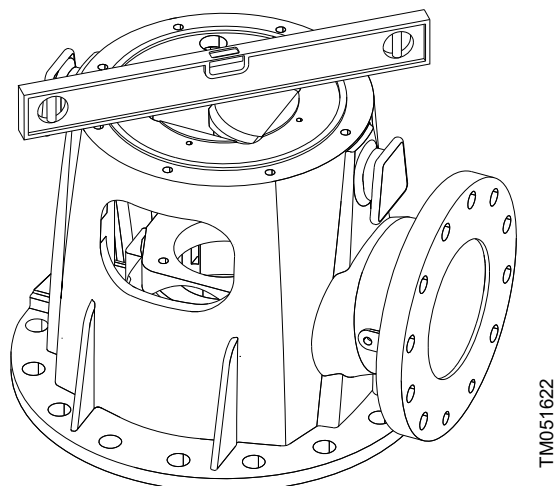

Fig. 4 Check for levelness in two directions
9. While maintaining the correct elevation, adjust the nuts and washers or shims to achieve the specified levelness of 0.005" per foot (0.4 mm per meter) in both directions as shown in fig. 4. The levelness should be measured by placing a precision level on the machined face of the discharge head motor register.